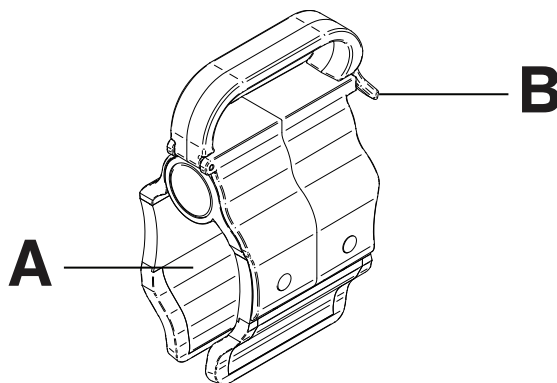

Figure 123: Line management clip
1. Open the clip (A) (Figure 123 on page 110).
1. Raise the clip prong (B) (Figure 123 on page 110).